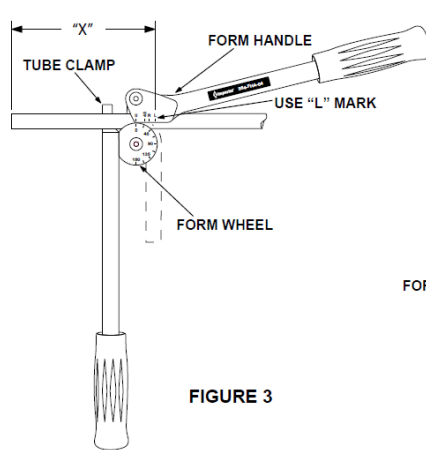

FIGURE 3
2. Position tube in bender as shown in Fig. 3. If the end from which you measured is left of the tube clamp, the measured mark should be directly over graduation "L" located on the right side of the form lever and shown in Fig. 3.